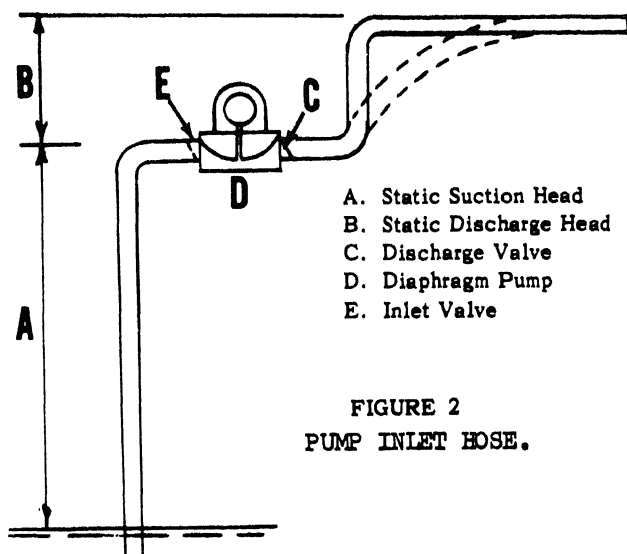

FIGURE 2
7. Selection and preparation of pump site - The pump inlet should not be located higher than 25 feet above the source of liquid to be pumped. (Fig. 2)
The pump is capable of pumping against a total dynamic head of 35' which is a combination of (A) and (B) in Fig. 2, but the Static Suction Head is not to exceed 25' (measured vertically) above the inlet valve from water level. This would leave a 10' Static Discharge Head (measured vertically). These figures are based on using a suction line of same nominal inside diameter as pump inlet (4"), and one elbow and are calculated at sea level atmospheric conditions.
Both the suction and check valves should close with a distinct slap. A change to a very loud snap indicates excessively high suction and/or discharge. Make sure that the installation does not exceed the maximums. (Reference, Chapter II, Par. 7 and Fig. 2.)